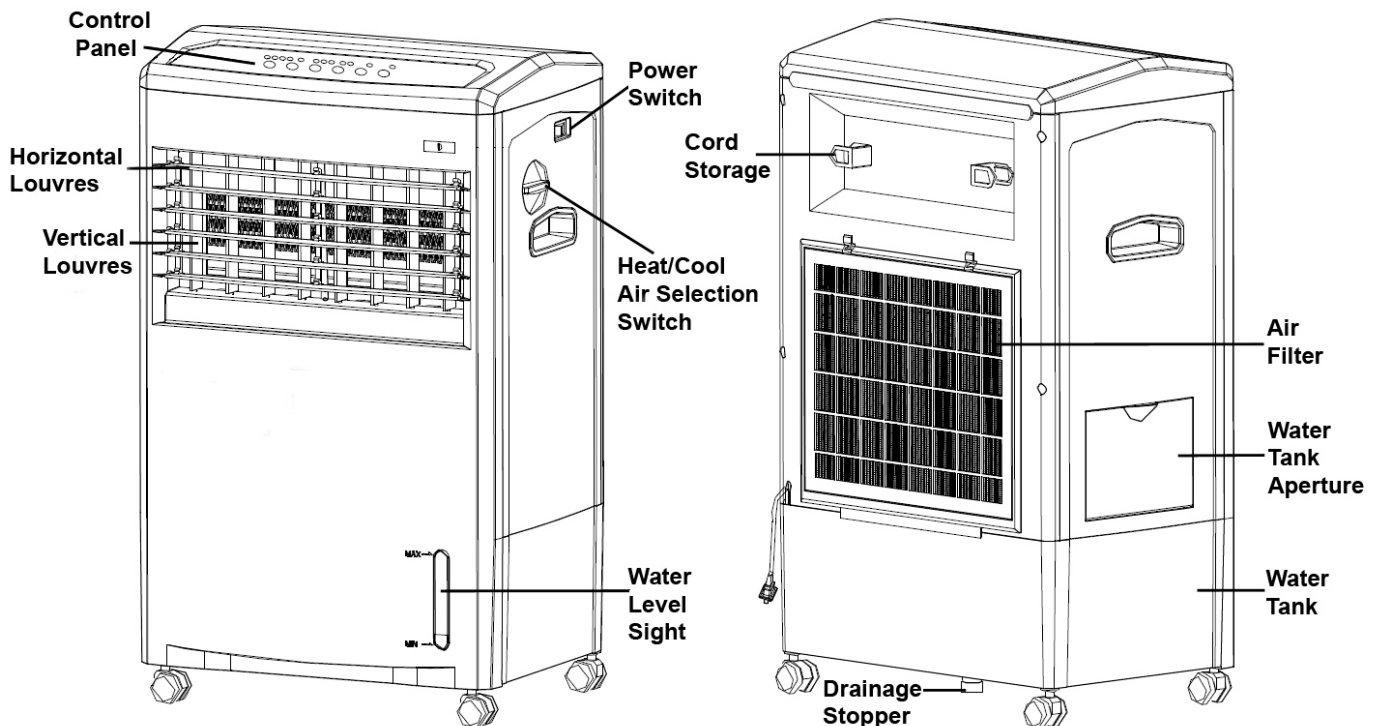

fig.1
##### 4.1.1. Heat/Cool Air Selection Control (on side of unit - fig.1)
The direction of the air flow coming out of the unit is controlled by two sets of louvres (fig.1). The horizontal louvres on the front of the machine can be manually adjusted up or down. Behind these louvres is a second set of electrically driven vertical louvres which can be made to oscillate from side to side by pressing the Wind button. An indicator light will illuminate above the button to show that the louvres are working. To cancel the movement, press the button again. The indicator light will go out.
- 4.2.1. The unit produces a cooling effect by evaporating water which is contained in a tank in the base of the unit. Before using as a cooler, the water tank must be filled. *Ensure that the unit is unplugged from the mains supply before topping up with water.* Open the water tank aperture on the side of the unit (fig.1) and pour water into the tank. Check the level of water in the tank through the water level sight at the front of the unit. The level should be between 'min' and 'max'. Close the cover. For an increased cooling effect, additionally place ice directly into the tank.
- 5.3. If the unit is not to be used for a long period of time, drain off any water remaining in the tank. Place a large enough container under the rear of the unit, remove the rubber drainage stopper (fig.1) to allow the tank to drain. When the tank is empty, replace the stopper firmly. Clean the unit and air filter as above, and store in a safe, dry area, out of the reach of children.